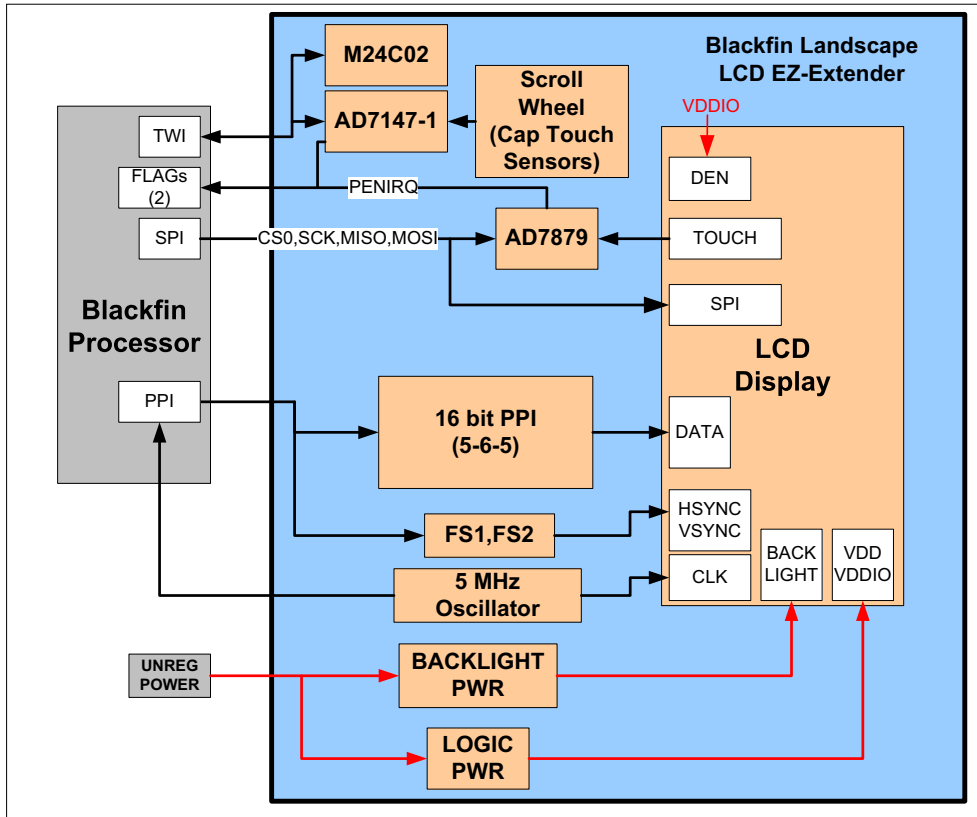

Figure 2-1. Block Diagram
3. Set the jumpers on the extender board. Use the block diagram in Figure 2-1 on page 2-2 in conjunction with “Jumper Settings” on page 2-3.
A block diagram of the Blackfin Landscape LCD EZ-Extender is shown in Figure 2-1.